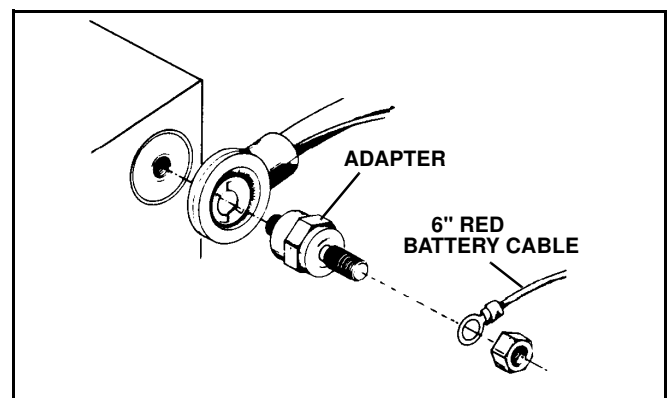

Figure 1-3
4. Attach the other end of the 6" long power wire to the positive terminal of the battery. (See Figure 1-3).
NOTE: An adapter is recommended for vehicles with a side post battery. (See Figure 1-3). (Adapters can be purchased from your Sno-Way dealer, Part #96100773.